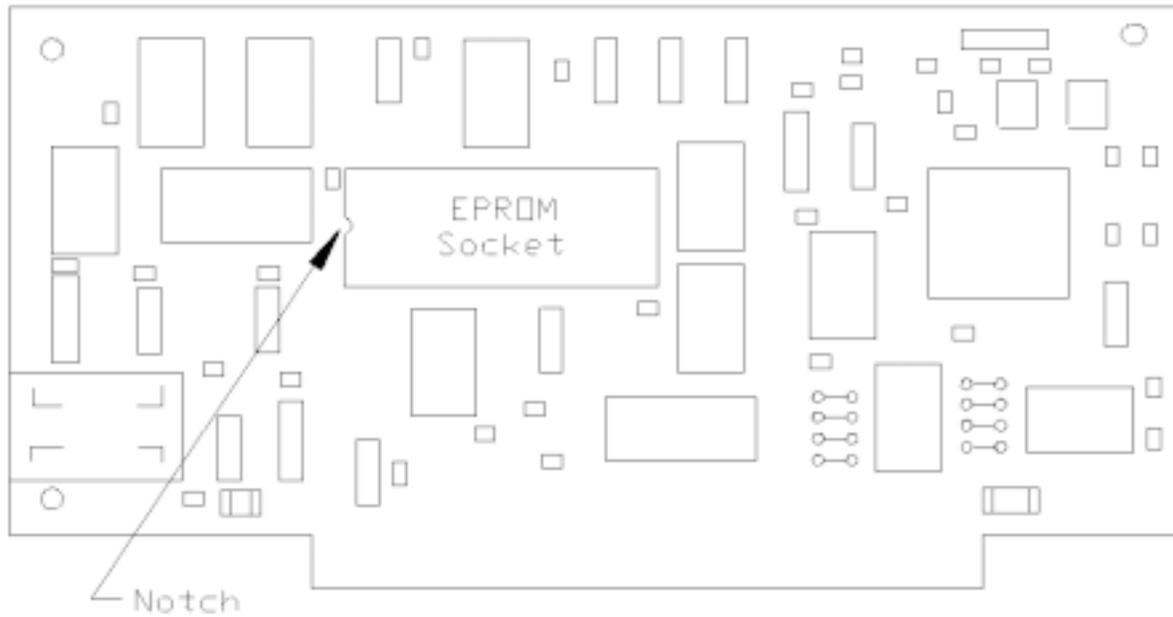
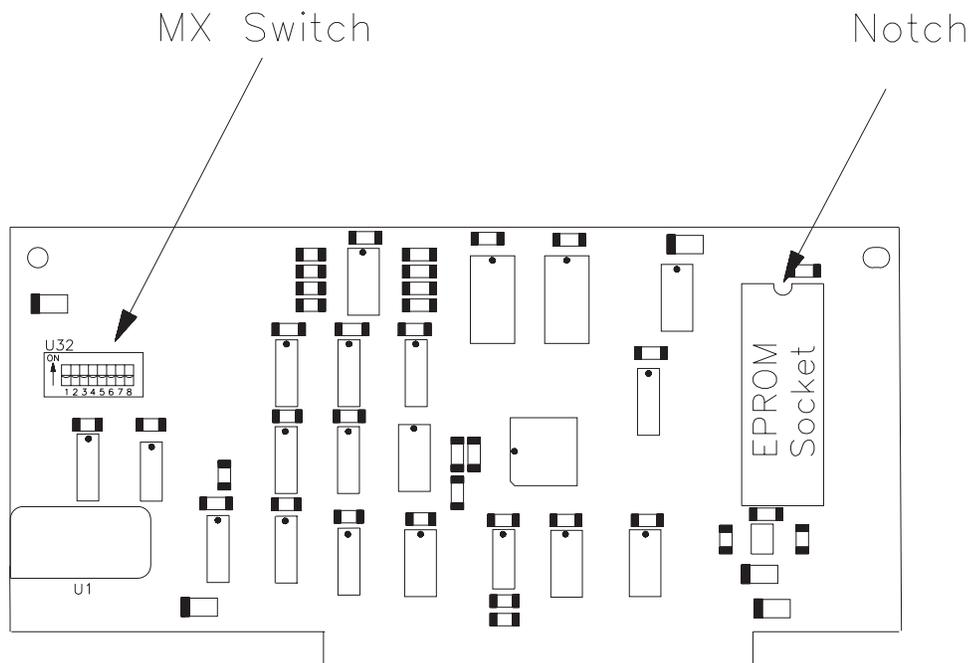

Figure 10-4
Figure 10-5
1. Select the EPROM to be installed and orient the notch in the EPROM with the notch in the EPROM socket on the card, as shown in either Figure 10-4 or Figure 10-5.